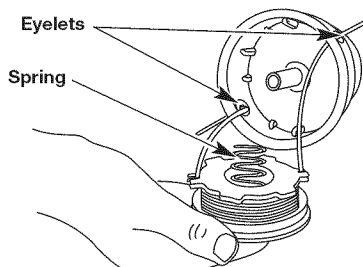

Fig. 21
13. Insert or slide the split ends of the line through or into the eyelets in the outer spool and place inner reel with spring inside the outer spool (Fig. 21). Push the inner reel and outer spool together.
- Insert or slide the ends of the line through or into the eyelets in the outer spool (Fig. 21).